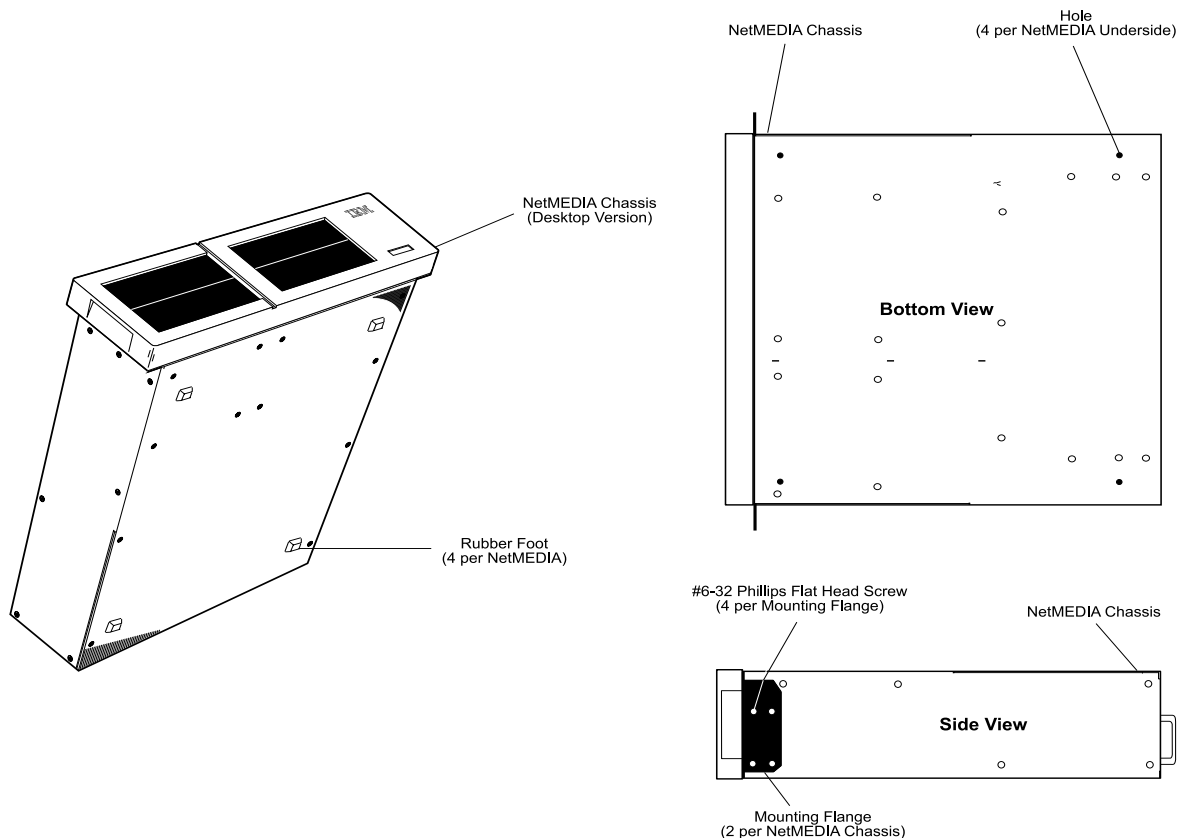

Figure 16: NetMEDIA Chassis Desktop Conversion
3. Remove the five (5) M6 screws that secure the service tray to the NetMEDIA chassis (Figure 16).